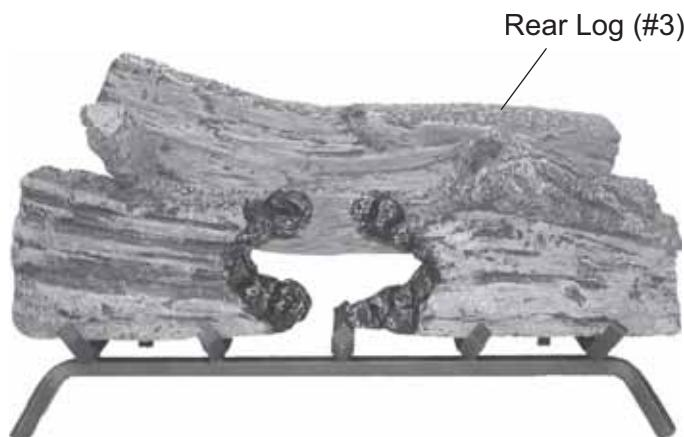

Figure 106 - Installing Rear Log #3
5. Fit cutout in the bottom left of Rear Log #3 over the back end of Log #2. Rest right end of Log #3 on rear grate bar. See *Figure 106*.